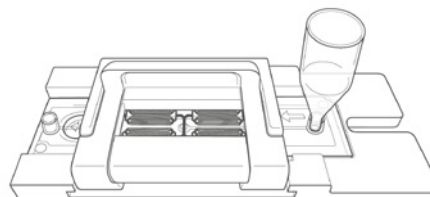

Fig. 25. Inlet Funnel in Manifold inlet port.
4. Insert the Inlet Funnel into the inlet port of the Manifold. Make sure the Inlet Funnel is completely inserted before proceeding to the priming steps (Figure 25).